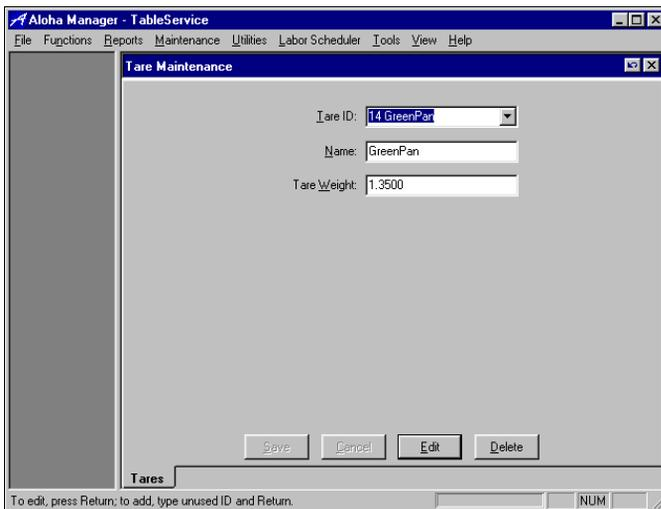

Figure 3-3 Tare Function Tab
2. Select **Maintenance > Hardware > Scales > Tares** to display the Tares function tab, as shown in Figure 3-3: